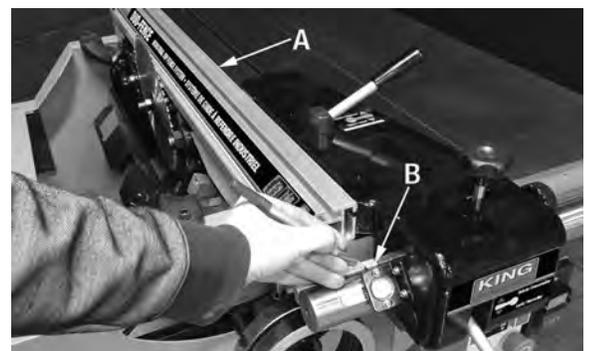

FIGURE 17
**IMPORTANT:** THE FOLLOWING INSTRUCTIONS ARE DESCRIBED WITH THE FENCE FACE (A) FIG.17 IN THE DOWN POSITION. THE ORIENTATION OF THE FENCE FACE WILL DETERMINE THE ZERO MARK POSITION ON THE SCALE. IF YOU WANT THE FENCE FACE TO BE IN THE UP POSITION, SET THE FENCE FACE IN THE UP POSITION AND FOLLOW THE INSTRUCTIONS BELOW.
1. Unlock the rip fence (A) Fig.17. **Determine the desired position of the rip fence face and adjust accordingly**, then slide rip fence over until it comes in contact with the 10" saw blade as shown.
2. Using a pen or thin marker, mark the rip fence bar (B) Fig.17 aligned with the pointer, this will mark the zero point of the scale.